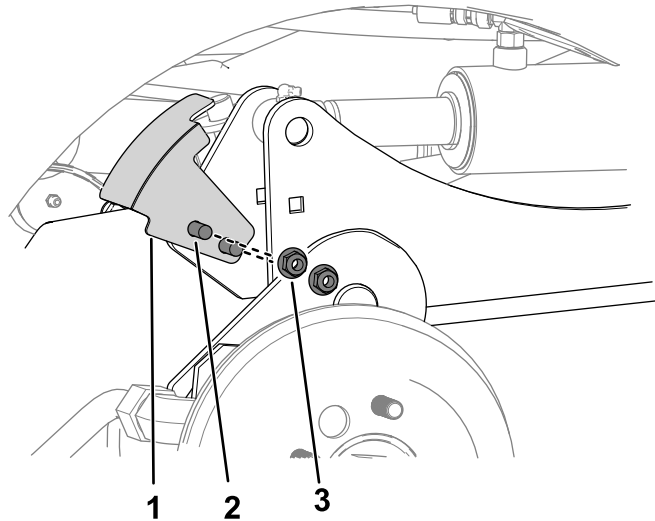

Figure 8
5. Use 2 carriage bolts and 2 nuts (3/8 inch) to secure the sensor bracket to the right lift arm (Figure 8).